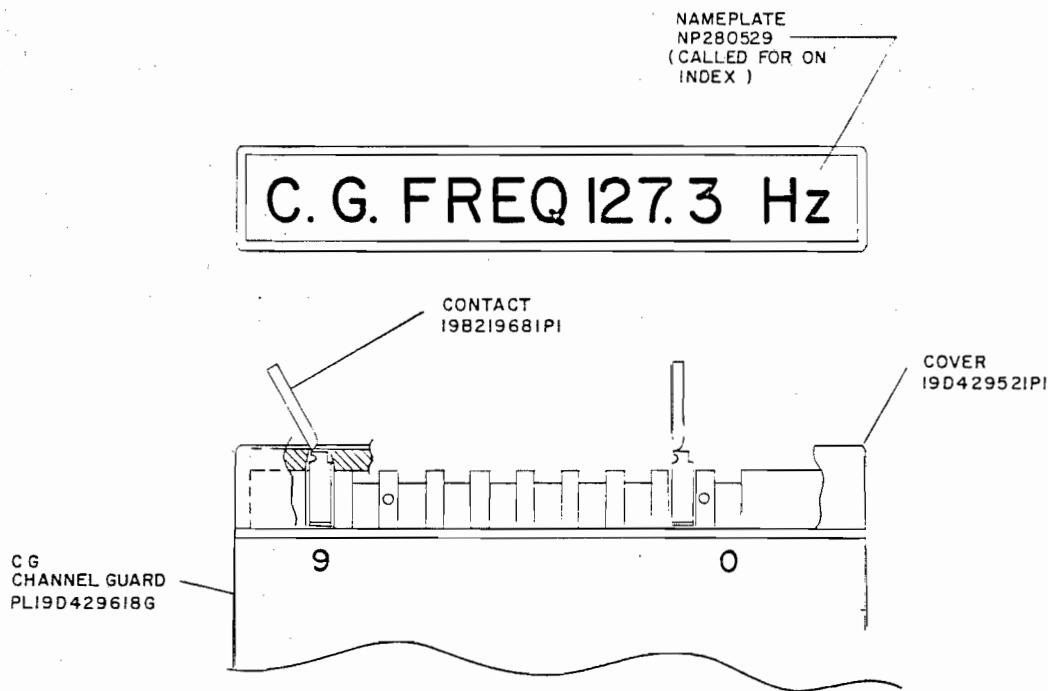

FIG. 1
1. INSTALL CONTACT PINS (198219681), PER FIG. 1, IN POSITIONS INDICATED BY "X" IN CHART 1, WHICH AGREES WITH DESIRED CG FREQ. (NOTE - EXAMPLE SHOWN FOR 127.3Hz).